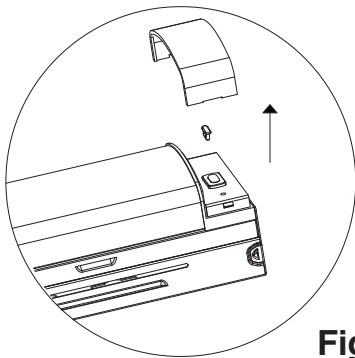

Fig. 2
2. Remove the silicone plug from the USB-C receptacle. (Fig. 2)